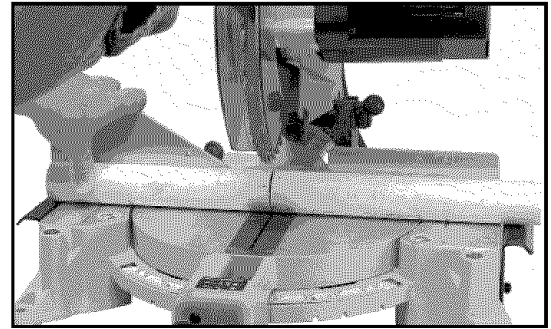

Fig. 30F
5. Cutting various sizes of plastic pipe is an easy job with this machine (Fig. 30F).